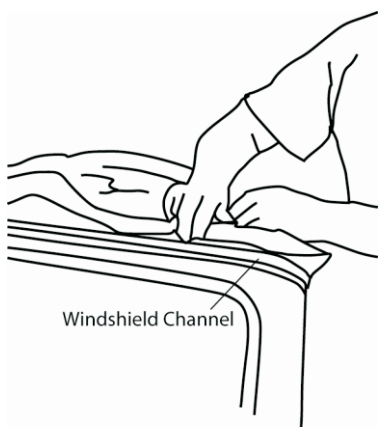

Figure 2
- Step 7.** Insert front plastic into the groove of the Windshield Channel. The ends will match nearly to each end of the Windshield Channel. From the front of the vehicle, check to make sure that the top is even from side to side. Check the door surround sides and push the top towards the rear to make sure the fabric is seated tightly around the front corners. See Figure 2.